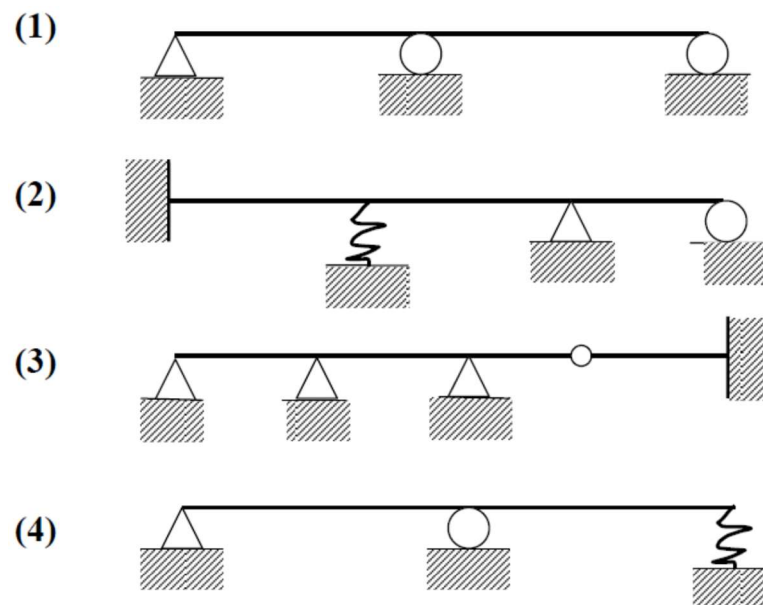

Fig.Q3
3. The static indeterminacy of the beams, (1), (2), (3) and (4) shown in Fig.Q3 are respectively: